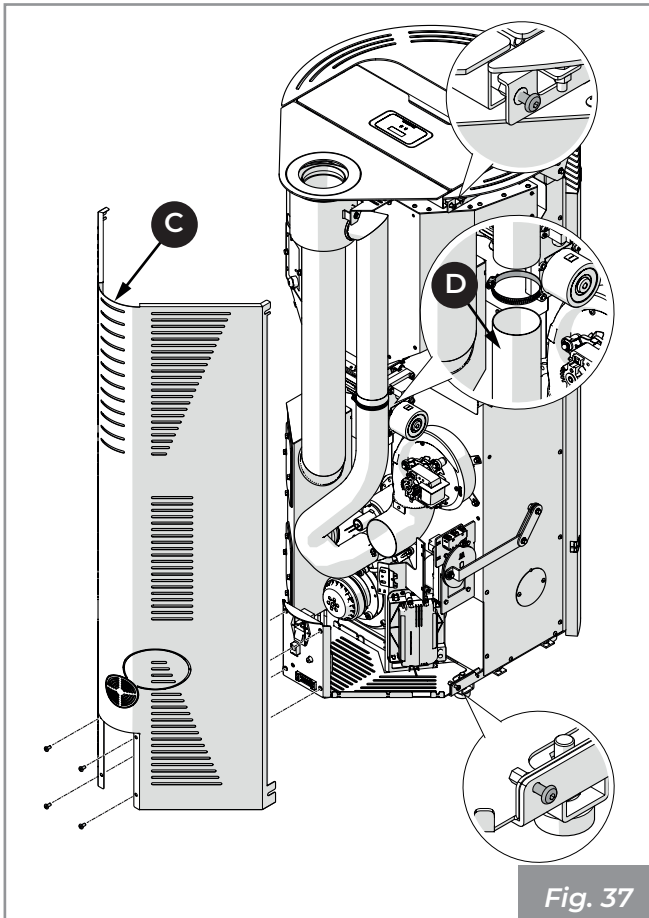

Fig. 37
- Remove the back panel of the stove (**C**) (**Fig. 37**).
- Disconnect the combustion air hose (**D**) in the upper part (**Fig. 37**).